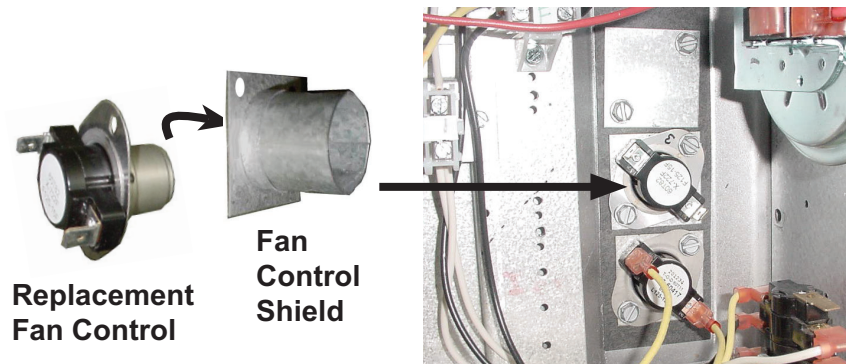

Figure 3. Replacement Fan Control and Fan Control Shield
6. Install replacement fan control (see Figure 3):